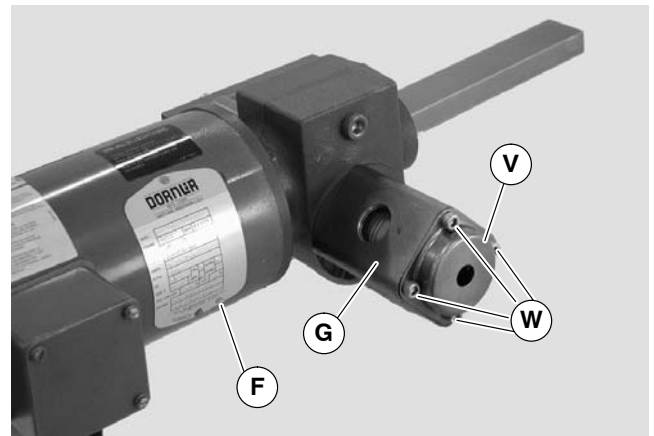

Figure 17
7. Attach shaft cover (V of Figure 17) and guard tube (G) with screws (W). Tighten screws (W) to 50 in-lb (5.6 Nm).